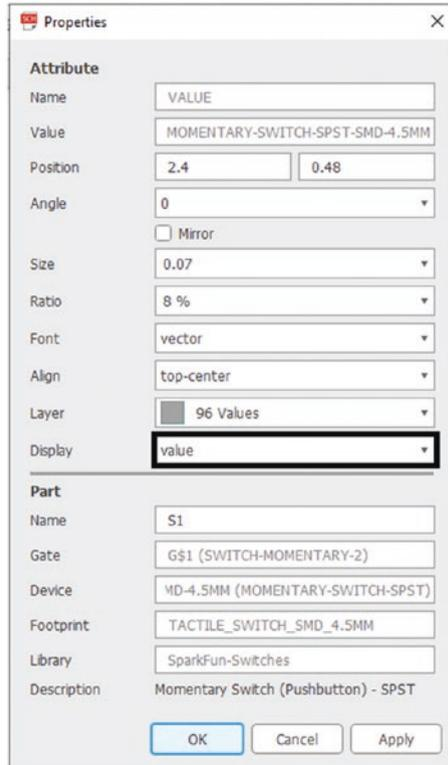

Figure 5-33. Select “off”
20. Select the “Display” drop-down menu and select “off.” See Figure 5-33.